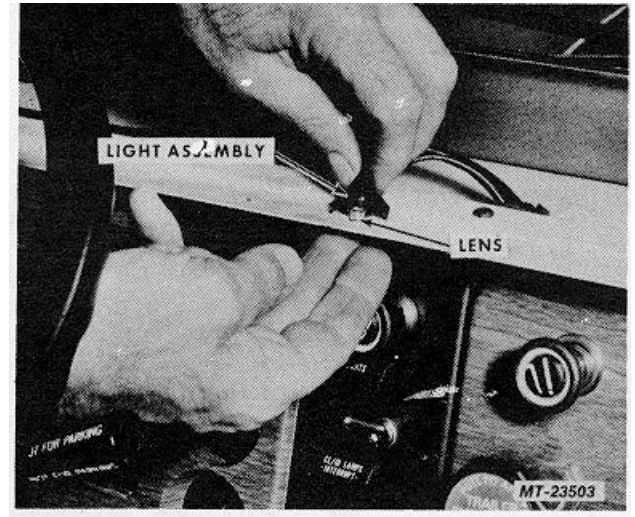

Fig. 17 Instrument Panel Control Light
1. Remove nine (9) screws and remove instrument panel top cover.
3. Disconnect light assembly wiring connector from wiring harness connector (Figure 17).
4. Disengage slot of light assembly from lens to remove light assembly (Figure 17).
For light assembly and lens relationship, see Figure 17.